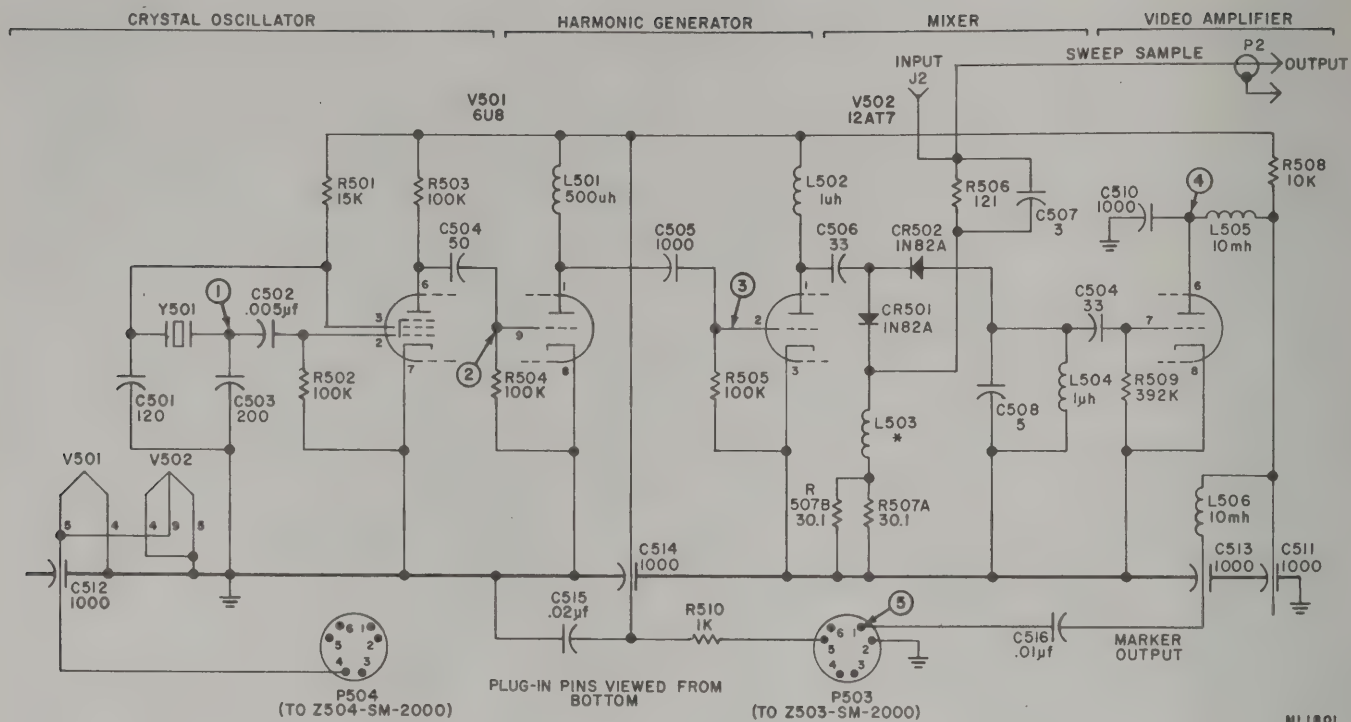

Figure 4-7. CDH 1.0 MHz X-1 harmonic marker.
(2) *1.0 MHz (figure 4-7).* This unit consists of a crystal-controlled oscillator, a harmonic generator, a mixer, and a video amplifier. V501 is a Pierce circuit, with the screen grid acting as the oscillator plate. The output of the pentode section of V501 is fed to a two-stage harmonic generator, the triode section of V501 and V502A. V502A output is fed to the junction of dual diode mixer CR501 and CR502, where it combines with the sweep sample originating at R206 in the junction network. The heterodyned signals are amplified in video amplifier stage V502B and fed through low-pass filter L505, L506, and C516 to P503-1. From P503-1, the video is applied through variable resistor R505 to amplifier V501C and then to C501, V504A, and the birdy-by-pass amplifiers. The 1.0-MHz harmonic marker provides strong harmonics from 1 MHz to over 1000 MHz.